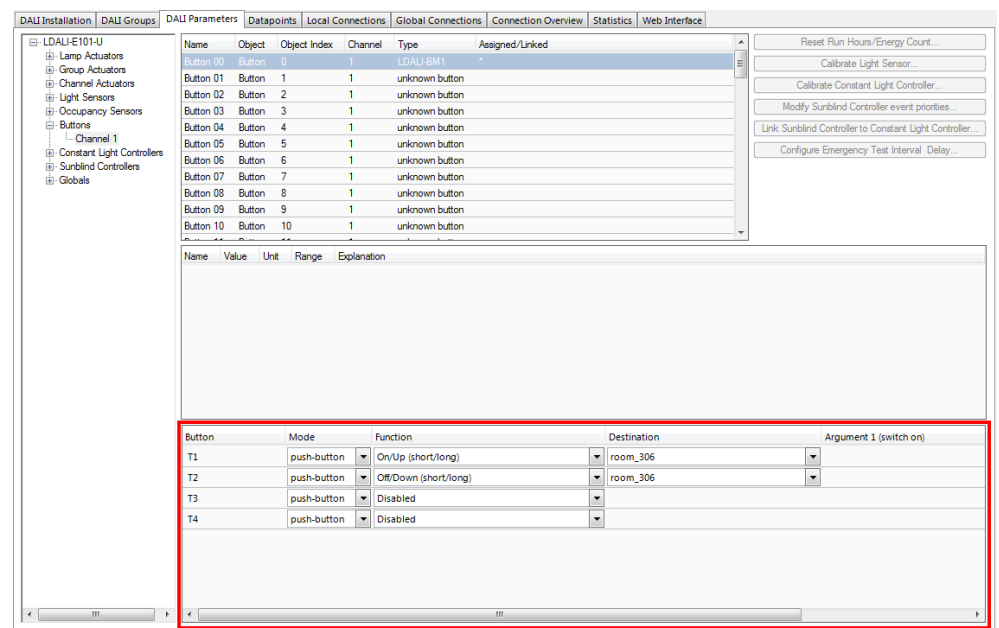

Figure 25: Parameterize DALI button functions.
- Stay on the **DALI Parameters** tab and select the button object to which you have assigned your DALI button as shown in Figure 25.